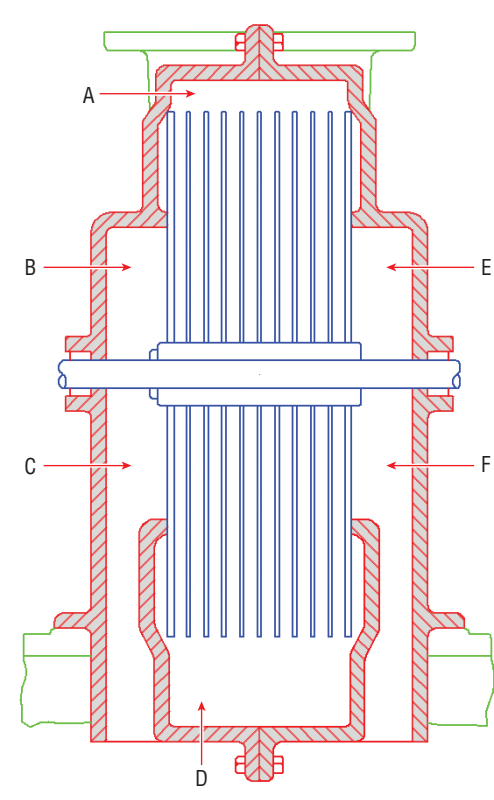

FIGURE 8.18 Picking points to determine boundaries for gradient hatch
2. Open the flyout next to the Hatch tool on the Draw panel, and select Gradient from the menu. Click the Pick Points button in the Boundaries panel and then click points A through F shown in Figure 8.18.